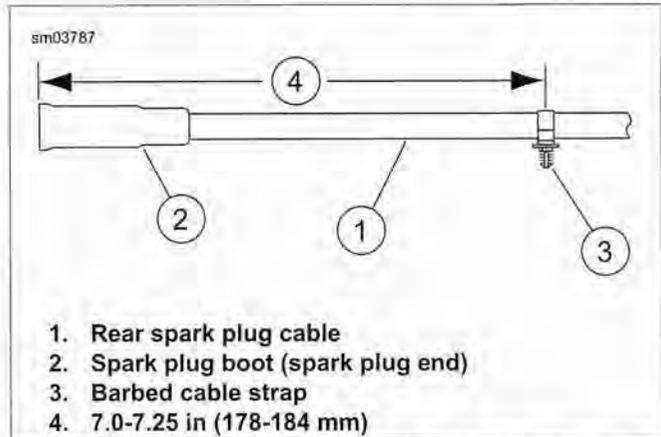

Figure 6-40. Rear Spark Plug Cable and Cable Strap: XL Models
5. **XL Models:** See Figure 6-40. Install **new** barbed cable strap (3) onto spark plug cable (1), 7.0-7.25 in (178-184 mm) from tip of spark plug cable boot (2), orienting cable strap so that spark plug cable is above mounting boss on caddy latch clip when barbed prong on cable strap is inserted in hole in boss. Press cable strap barbed prong firmly into hole in caddy latch clip mounting boss.